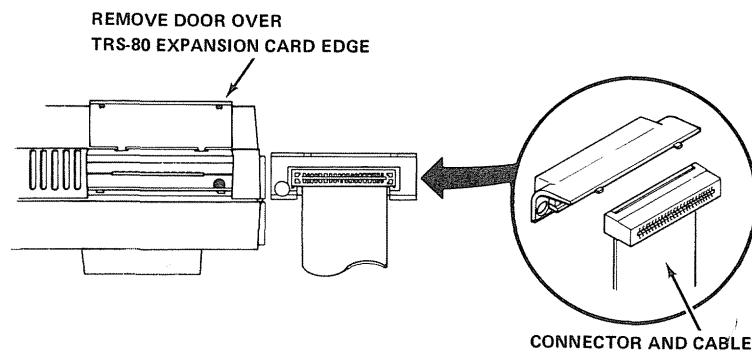

Figure 5. Connection to the TRS-80.
1. Position the TRS-80 as illustrated (Figure 5, rear view). Lift the door covering the Expansion Card-Edge, and slide it slightly to the right, then lift it up and away from the TRS-80 (be careful not to break the little plastic tabs).
3. Attach the curved TRS-80 connector hood to the keyboard case; the ribbon cable should feed out from the bottom of the hood (Figure 5).